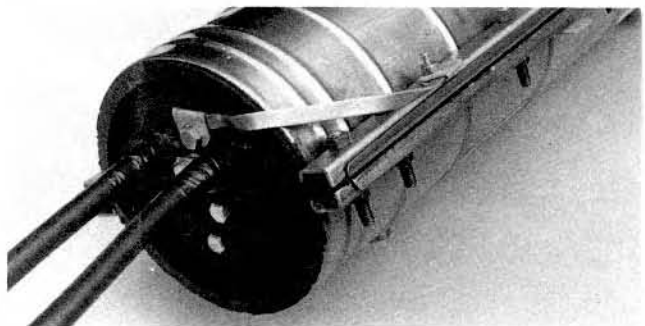

Figure 51
26.02 Loosely bolt the bonding clamp to one of the threaded inserts in the bottom section of the end plate where the cables were installed. Install a length of bonding ribbon (not supplied) from the bonding clamp on the LOCKBAR™ System to the bonding clamp on the end plate. Securely tighten the bolt on the end plate. Figure 51.